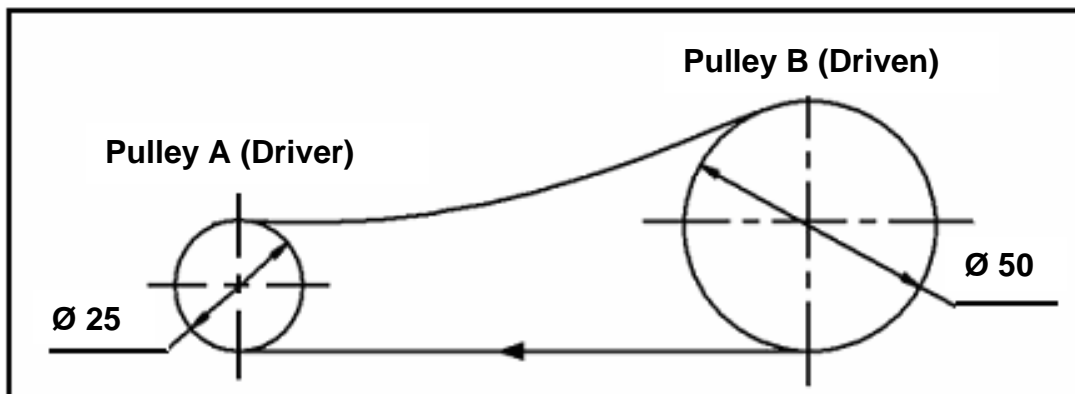

FIGURE 1.7
1.17 What will the rotational speed of Pulley A be if Pulley B is rotating at 1 000 r/min as shown in FIGURE 1.7?